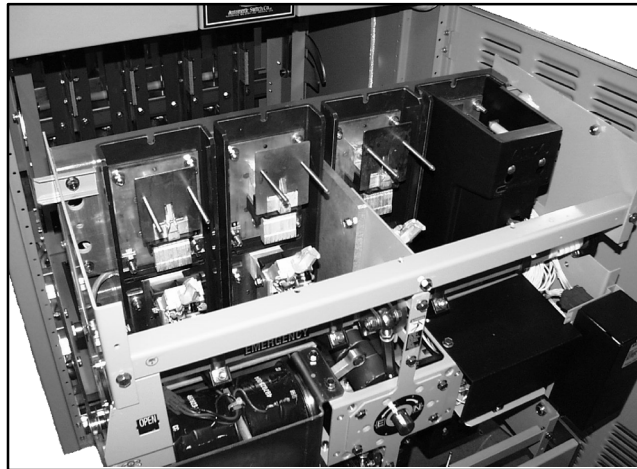

Figure 11-5 Arc Chutes Removed
4. Carefully remove the arc chutes. Use a 5/8 in. nutdriver to remove two long insulator nuts. Then carefully pull the arc chute outward (off the long threaded rods). Place the arc chutes in a safe place. See Figure 11-5.
4. Carefully remove the arc chutes. Use a 5/8 in. nutdriver to remove two long insulator nuts. Then carefully pull the arc chute outward (off the long threaded rods). Place the arc chute in a safe place to prevent breakage. See Figure 11-5.